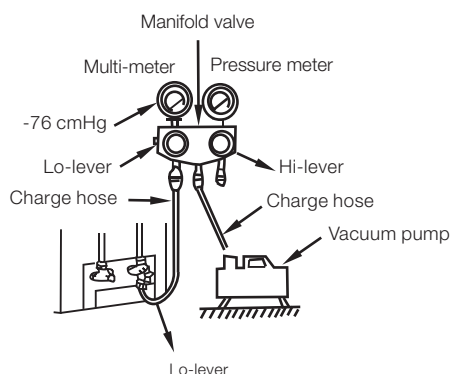

Fig.7-4
• Expel the air with a vacuum pump (Refer to Fig.7-4) (Please refer to its manual for the way of using manifold valve)